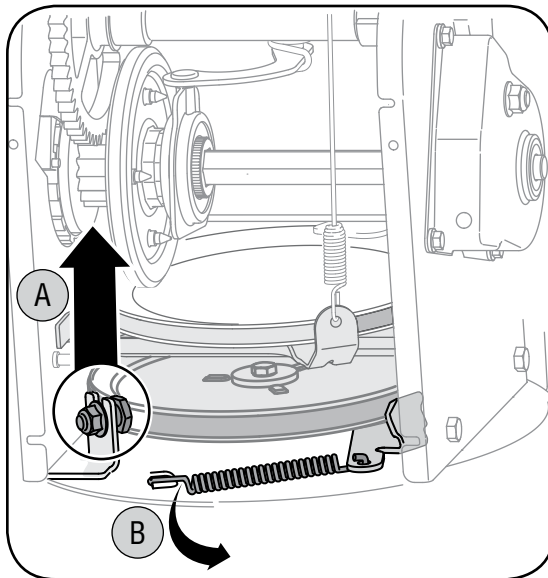

Figure 24
3. With the drive control engaged, the friction wheel must contact the drive pulley. Refer to Figure 24 in Maintenance section.
2. a. Turn the shoulder screw a half a turn and slide it out of the mounting bracket. See Figure 24.
b. Unhook spring to release tension on the auger belt. See Figure 24.